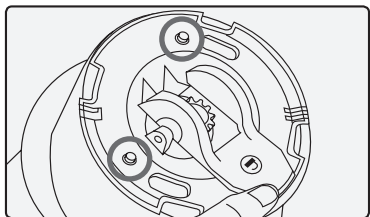

Figure 21
3. Fit the jug stand (with attachment clamp in the open position) onto the blade and the three pivots of the jug base (Figure 21).